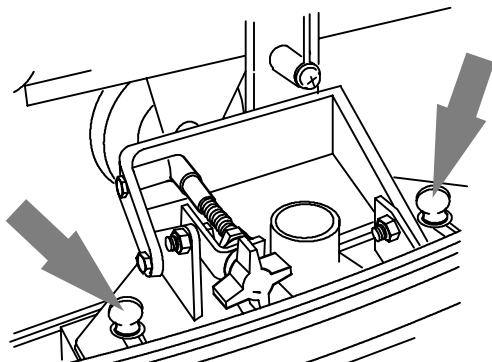

FIG. 4
2. Place squeegee under pivot bracket, line up mounting studs with squeegee slots and tighten thumbscrews (Figure 4).